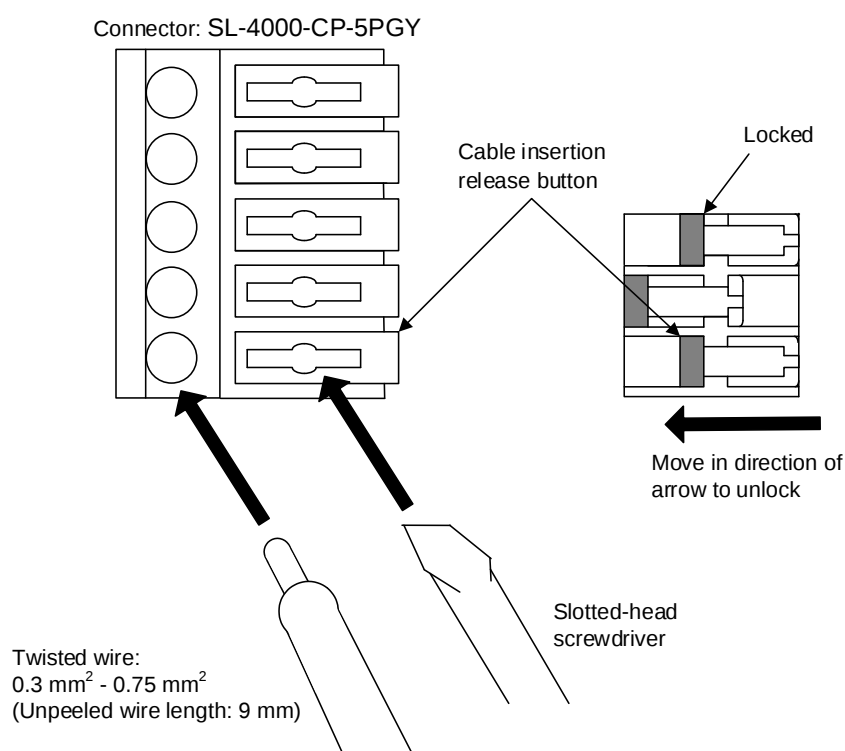

Fig. 7.3 Attaching and detaching external I/O cable
When two (2) TR48DIOC-1 modules are used, see Fig. 7.3 for example. As the TR48DIOC-1 module on the extreme right side as viewed from the controller front side is the terminal station in terms of cable wiring, set ON the terminator setting switch equipped on this module alone. The terminator of the left TR48DIOC-1 module should remain OFF.